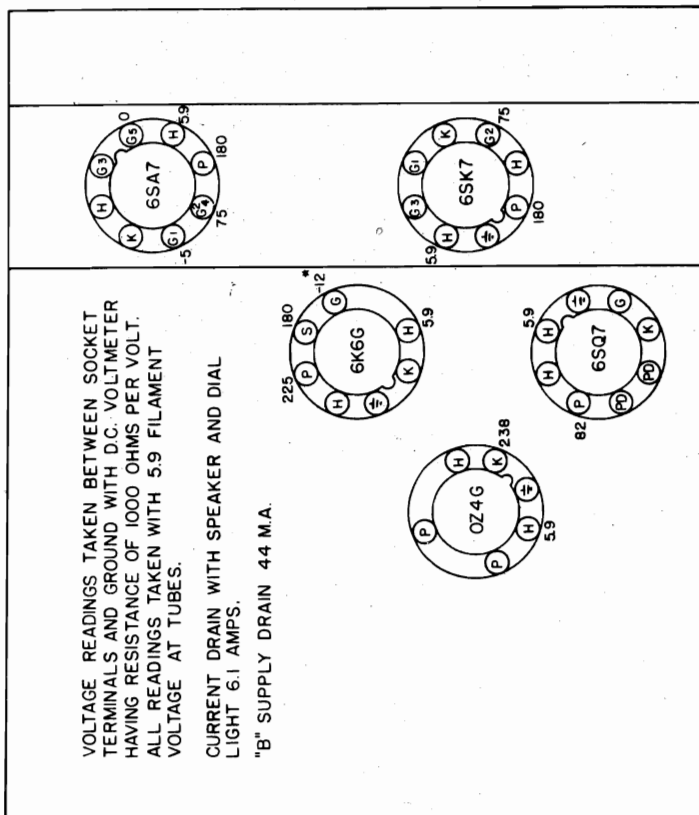

FIG. 3--PARTS LAYOUT--Top View
- (e) Adjust trimmers A-B-C-D (Fig. 3) in the order mentioned until maximum output is obtained.